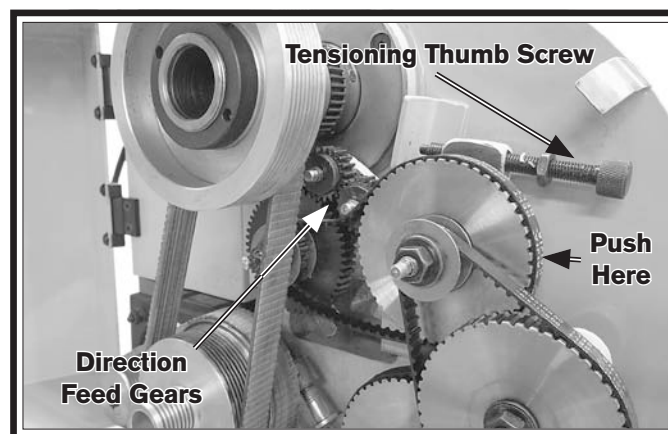

Figure 71. Feed direction gears in the neutral position.
- a. Back out the tensioning thumb screw (see **Figure 71**) all the way, then push the top end pulley toward the back of the lathe to release the tension on the attached timing belt.
- b. Turn the spindle counterclockwise by hand and apply pressure on the pivot bracket toward the front of the lathe until the front direction gear is resting on the timing belt (see **Figure 71**).